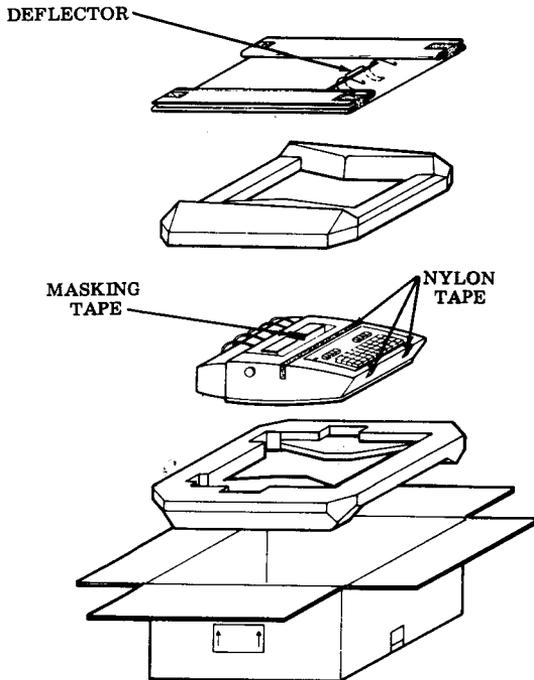

Fig. 5—Packing Details
4.04 Using the containers and packing details retained in 3.05, pack the 43 Teleprinter (Fig. 5).